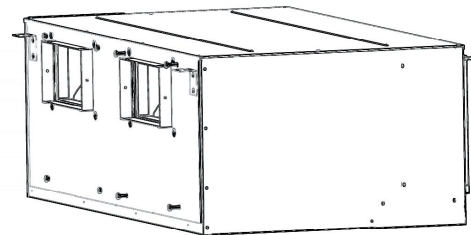

Fig.9-10
- 4) One person supports the bottom of fan motor assembly; another one fixes the M8 screws to make the assembly fixed on the front board. (Fig.9-10)